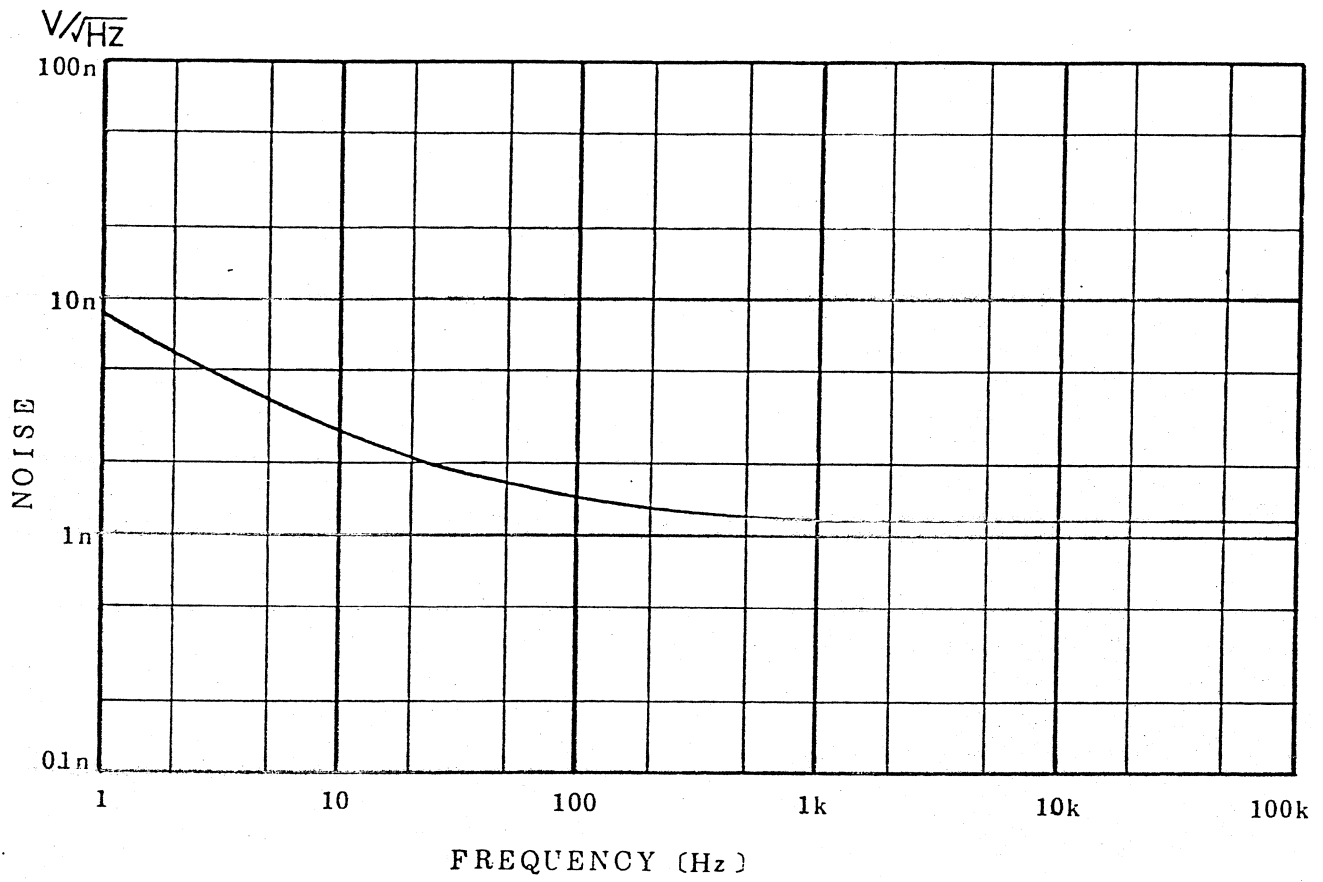

Fig. 6-3 Frequency vs. input-referred noise voltage
- Fig. 6-3 Frequency vs. input-referred noise voltage